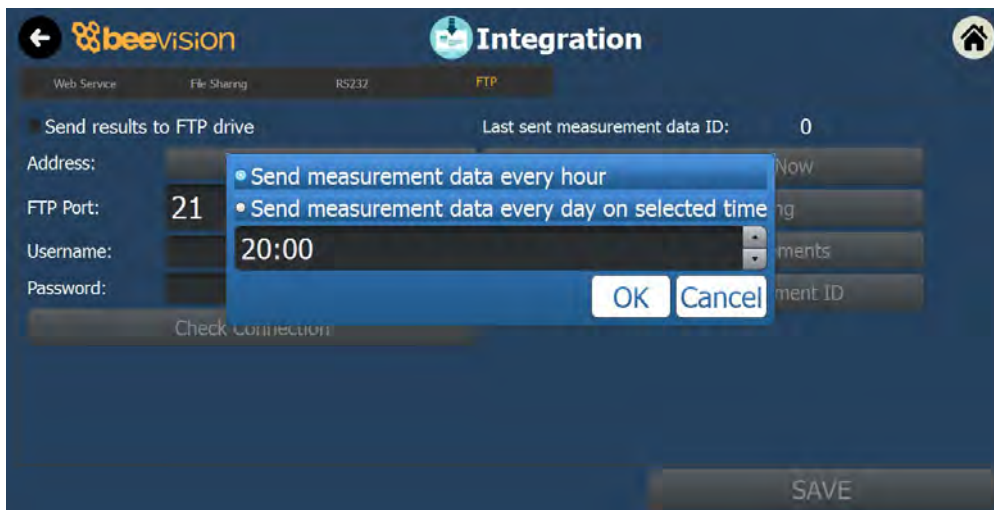

FIGURE 16: INTEGRATION PAGE FTP TAB
**Set time for sharing:** Brings up the dialog box to select either sending measurement results to desired FTP drive every hour or every day at a given hour which is also could be modified on the dialog box. Shown in Figure 16.